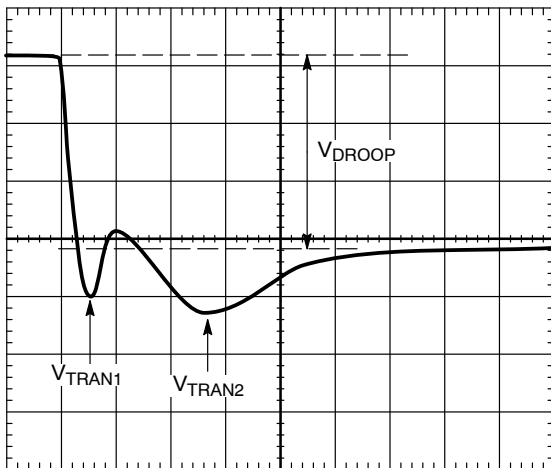

Figure 33. Transient Setting Waveform, Load Step
15. Users should see a waveform that is similar to the one in Figure 33. Use the horizontal cursors to measure V_{ACDRP} and V_{DCDRP} as shown. Do not measure the undershoot or overshoot that occurs immediately after the step.
19. With dynamic load still set at the maximum step size, expand the scope time scale to see 2 $\mu\text{s}/\text{div}$ to 5 $\mu\text{s}/\text{div}$. A waveform that has two overshoots and one minor undershoot can result (see Figure 33). Here, V_{DROOP} is the final desired value.